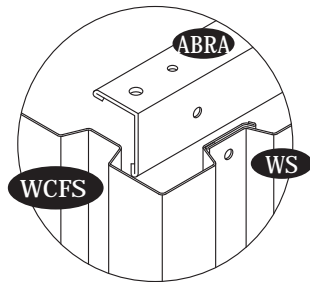

Fig.1
16. Place the top angle back right (ABRA) on top of the wall panel from inside. See the position in fig.1. Line up the holes with wall panel use (S1) screws with washers to secure. See fig 2.